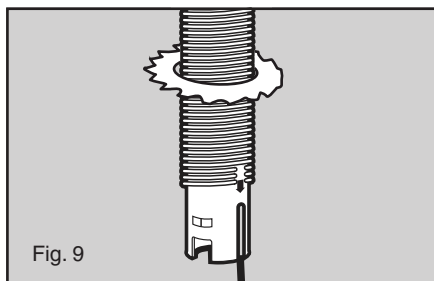

Fig. 9
10. Position the lock washer on the bottom of the threaded soap discharge head. (see figure 9)